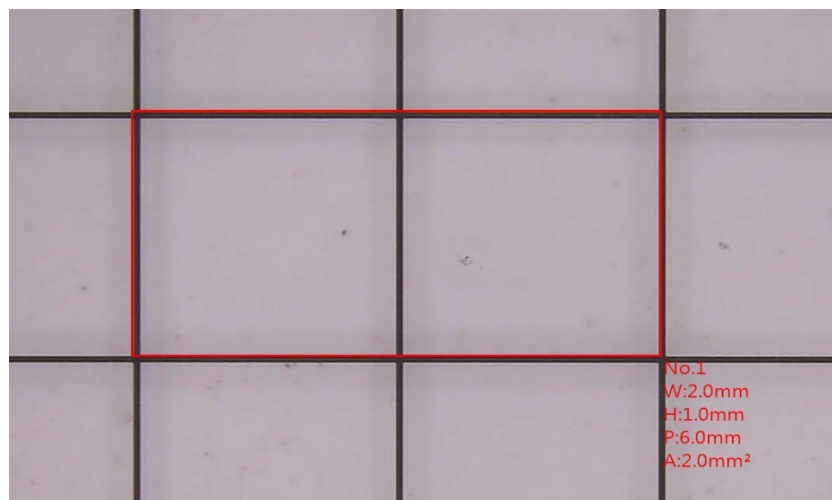

Fig.5-6 Rectangle measurement
(2) Rectangle : The object is quadrilateral that can apply  tool as Fig. 5-6. The Rectangle tool can measure and show rectangular circumference ($P=6.0\text{ mm}$), Horizontal length ($W=2.0\text{mm}$), Vertical length ($H=1.0\text{ mm}$), Rectangular area ($A=2.0\text{ mm}^2$).